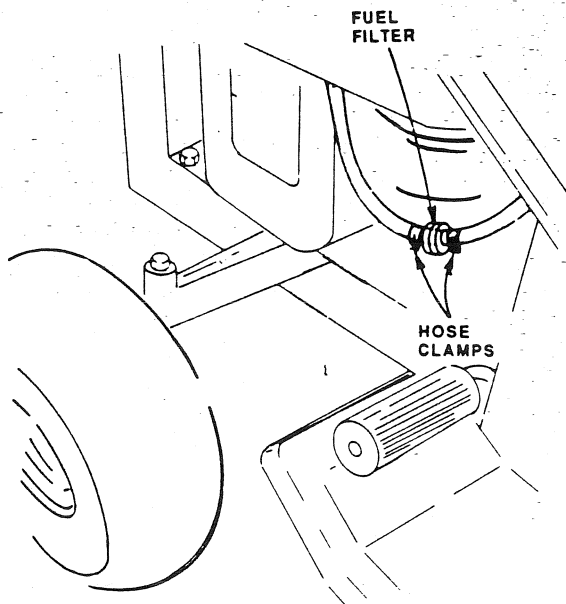

FIGURE 25
- With Engine cool, remove Hose Clamps from Fuel Lines at Fuel Filter (Fig. 25)
- Remove filter and plug Fuel Line Sections as removed from both ends of Fuel Filter. (Fig. 25)